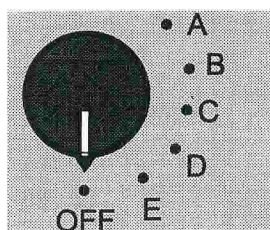

Figure 3-26 ST 500 E
The platter in the middle (C) can work with the two upper or with the two lower platters. Therefore you have to choose the corresponding projector (see also fig. 3-26).